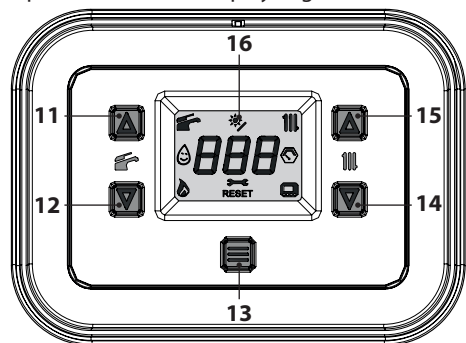
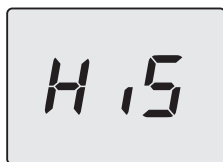
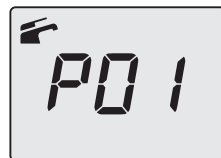

Figure 9.28
Figure 9.29
Figure 9.31
- Enter “programming mode” by pressing the 12 and 14 keys simultaneously for 5 seconds (Figure 9.28) until **HiS** (Boiler History) appears on the LCD display (Figure 9.29).
- Press the 13 key for 1 second (Figure 9.28) to enter the selected parameter. The display will show the following (**11**=M300V.1616 SV, **13**=M300V.2025 SV or **15**=M300V.3035 SV) (Figure 9.32).
- By pressing the keys 12 and 14 simultaneously (Figure 9.28) exits the level without changing the value (return to the previous level Figure 9.31).
- press the 12 and 14 keys simultaneously for 5 seconds (Figure 9.28) (return to previous level).